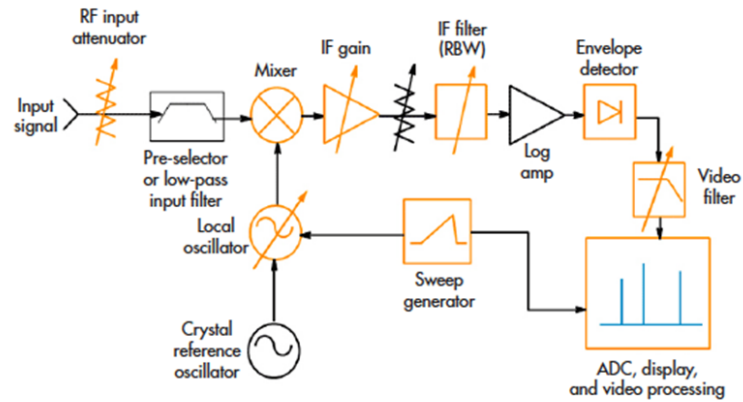

Figure 3: Simplified block diagram of a spectrum analyzer [2].
The basic working principle of a typical spectrum analyzer is conceptually quite simple². It is basically a glorified high frequency signal receiver. Fig. 3 shows a very simplified system diagram of a typical spectrum analyzer, highlighting its major blocks. The input signal is downconverted to a much lower frequency (usually several MHz) before it is captured by a power detector. The downconverter is represented by a mixer with a sweeping local oscillator (LO). The LO signal is swept through a span of frequency that can be set by the user; this sets the frequency span of the measurement. The downconversion of the signal allows it to be optimally conditioned for the detection circuitry.